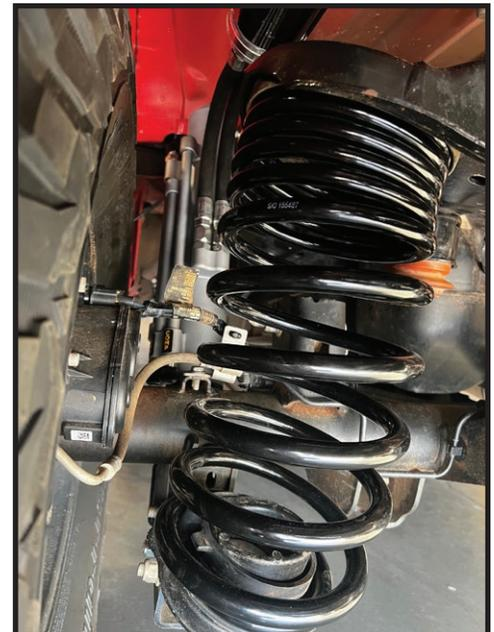

FIG.1
- Install the ICON springs. Install the top first then lift the lower up and over the mount with the pig tail in the same orientation as the factory springs, make sure the springs are seated properly. [FIGURE 1]